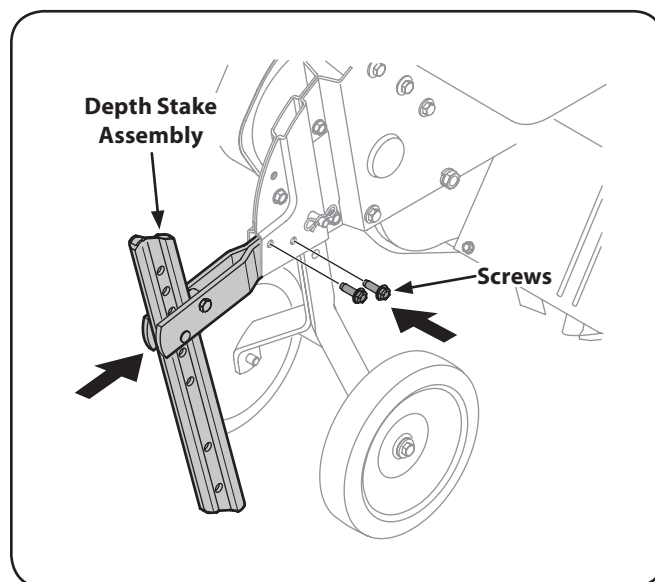

Figure 3-6
- Insert the depth stake assembly into the frame and reinstall the two screws removed earlier. Tighten the hex bolts securely. See Fig. 3-6.